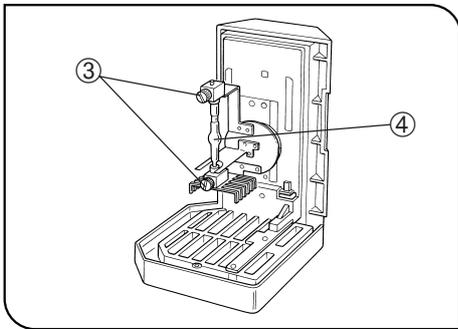

Fig. 43
3. Place the socket section upside down as shown in Fig. 43.